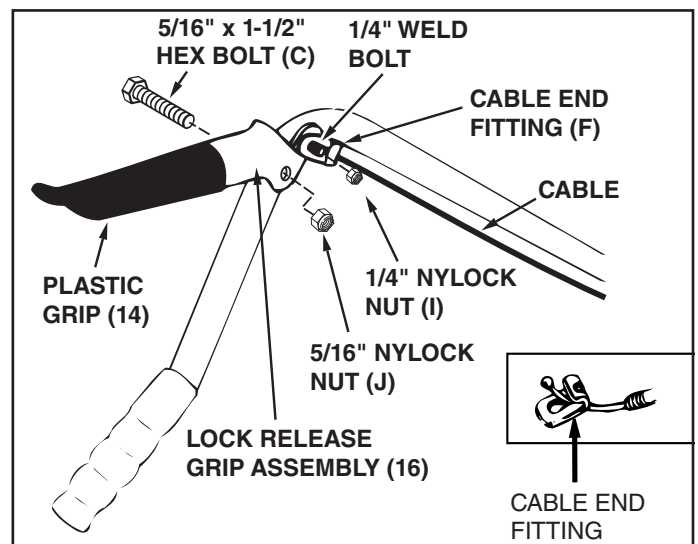

FIGURE 10
- STEP 10:** Assemble plastic grip (14) onto lock release grip assembly. See figure 10.
- Attach lock release grip assembly to lift handle tube using one 5/16" x 1-1/2" hex bolt (C) and one 5/16" nylock nut (J). Do not overtighten the nut. The grip assembly must pivot freely. See figure 10.
- Assemble the ball end of the cable to a cable end fitting (F) as you did to the other end of the cable. Secure the cable end fitting (F) to the weld bolt on the lock release grip (16) with a 1/4" nylock nut (I). Do not overtighten the lock nut. The cable fitting must pivot freely. See figure 10.